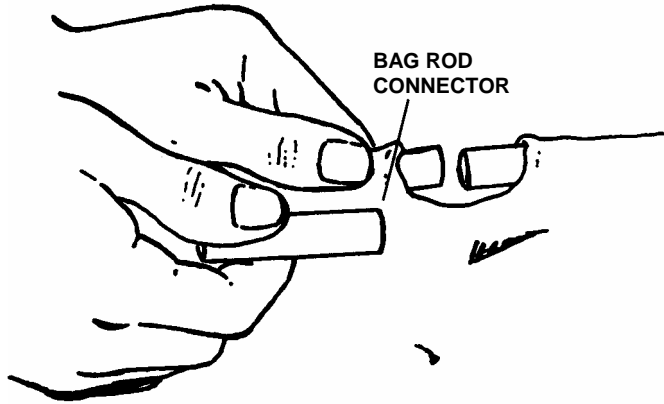

FIGURE 9
STEP 9: Insert the bag rod (item 4, see page 6) into the upper loop of the grass catcher bag (Item 5, see page 6) and work the grass bag until completely around the bag rod. The opening should be positioned at the bag rod opening. Push the bag rod connector (item 12, see page 6) over one end of the bag rod. Push the bag rod connector onto the rod until half of the connector is over the end of the rod. Position bag/rod assembly vertically and place foot on the inside of the bottom section. Lift the upper corner of the bag/rod assembly and guide the other end of the rod into the connector. See Figure 9. Work the rod ends together until they meet. Slide grass bag/rod into frame with open mesh to the rear of mower. Secure in place with latch.